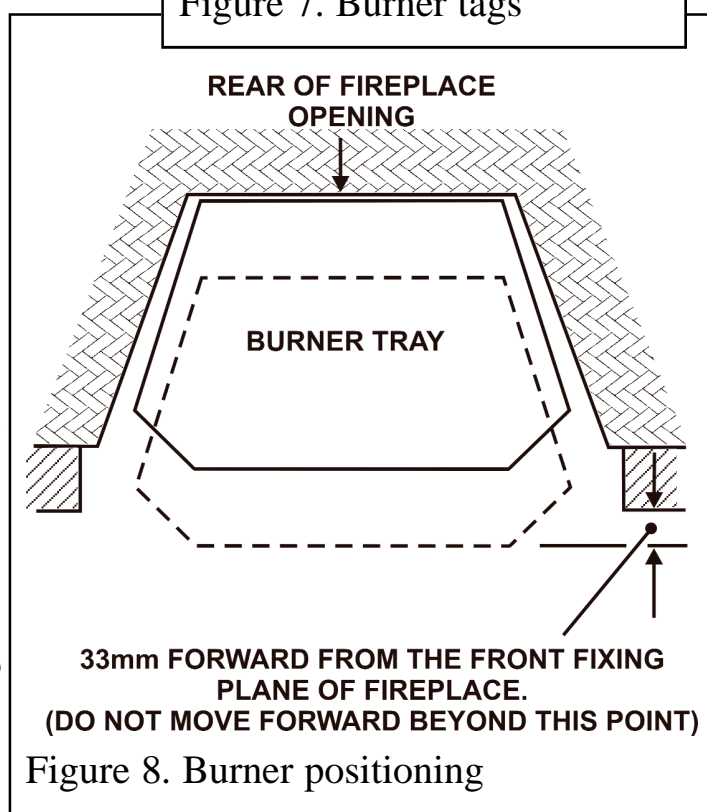

Figure 8. Burner positioning
- Place the burner unit centrally within the fireplace opening. Position the burner to the rear of the opening, this may be moved forward providing the front of the burner tray trim does not protrude beyond the front plane of the fireplace opening by more than 33mm (See figure 8).
- The casting and burner may be moved forward providing the front of the burner tray trim does not protrude beyond the front plane of the fireplace opening by more than 33mm (See figure 8).